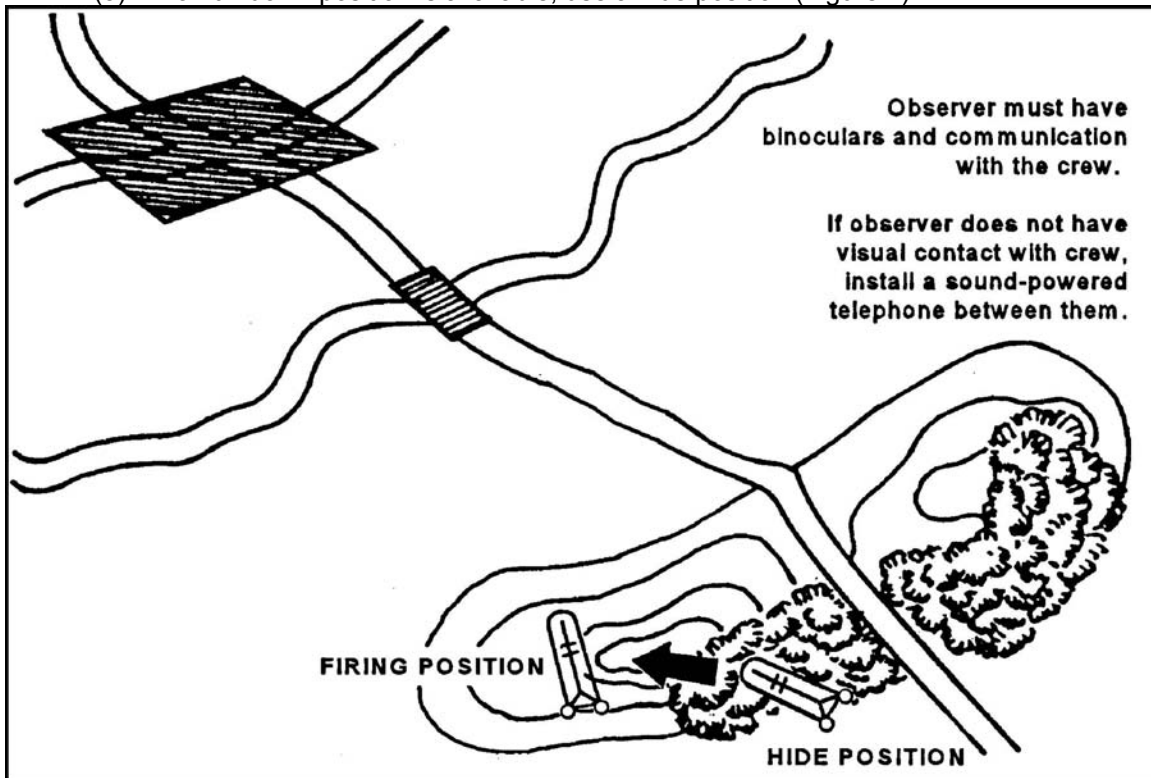

Figure 2. Hull-down position.
(3) If no hull-down position is available, use a hide position (Figure 2).